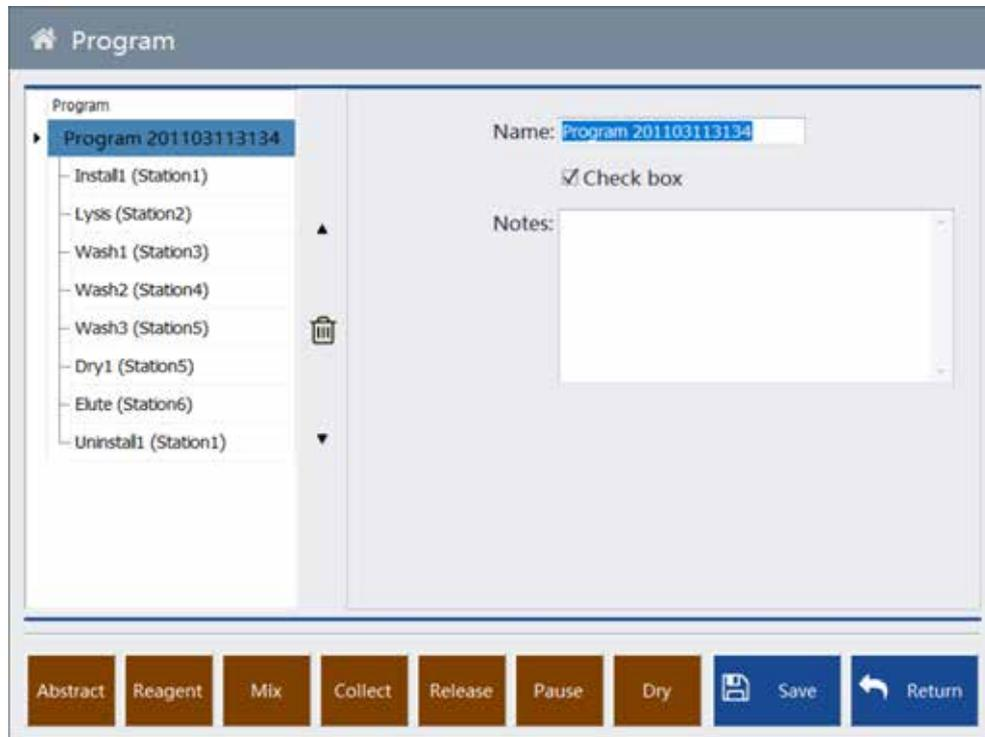

Figure 4-4 Abstract
**Summary:** When programming, enter the "Abstract" interface by default, as shown in Figure 4-4.